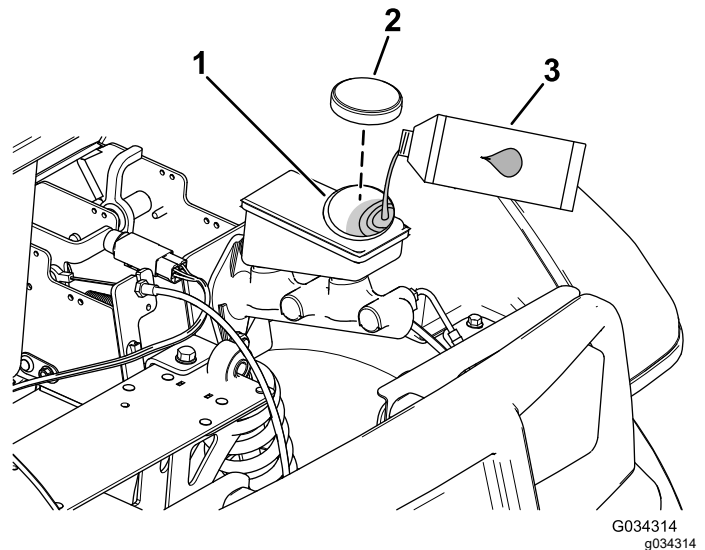

Figure 64
4. Raise the hood to gain access to the master-brake cylinder and reservoir (Figure 64).
- A. Clean the area around the reservoir cap and remove the cap (Figure 64).
- C. Install the reservoir cap (Figure 64).